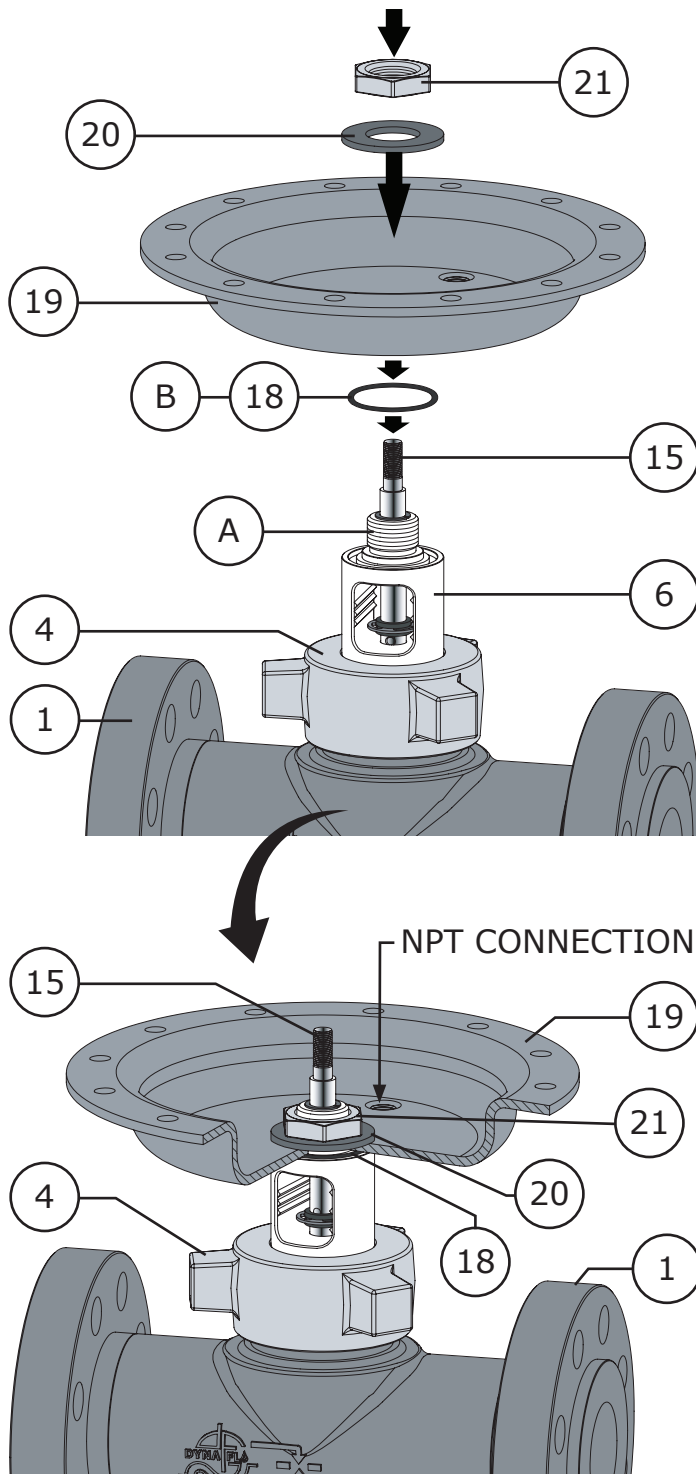

Figure 40 Lower Diaphragm Casing Installation
- 1 Apply Dow Corning Molykote® 111 (Key B) to the casing o-ring (Key 18) and install it in to the O-ring groove on top of the bonnet (Key 6). Refer to Figure 40.
- 2 Place the lower diaphragm casing (Key 19) over the valve stem so that it rests on the casing o-ring (Key 18). Orientate the NPT connection of the casing so that it is centered within the bonnet window (Key 6). Reference Figure 40 or any marks made during disassembly for correct NPT orientation.
- 5 While holding the lower diaphragm casing (Key 19) in place, thread the bonnet locknut (Key 21) onto the bonnet threads using a 1-1/2" deep socket and tighten to 200 lbf-ft. (Refer to Figure 40)